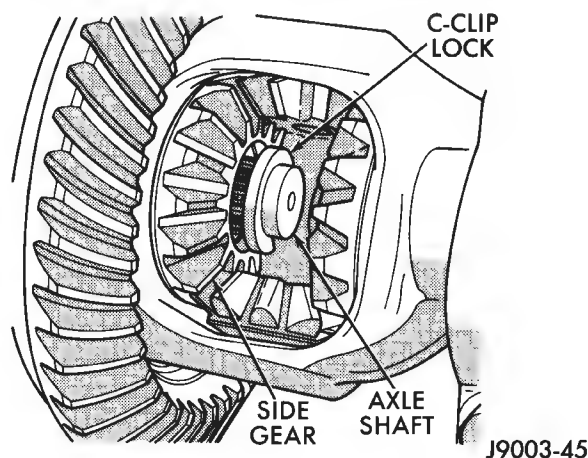

Fig. 4 Axle Shaft C-Clip Lock
- (7) Push the axle shaft in toward the center of the vehicle. Remove the axle shaft C-clip lock from the axle shaft (Fig. 4).
- (8) Remove the axle shaft. Use care to prevent damage to the axle shaft bearing, which will remain in the axle shaft tube.
- (9) Inspect the axle shaft bearing contact surface area for indications of brinelling, spalling, and pitting.
(Fig. 4). Push the axle shaft outward to seat the C-dip lock.